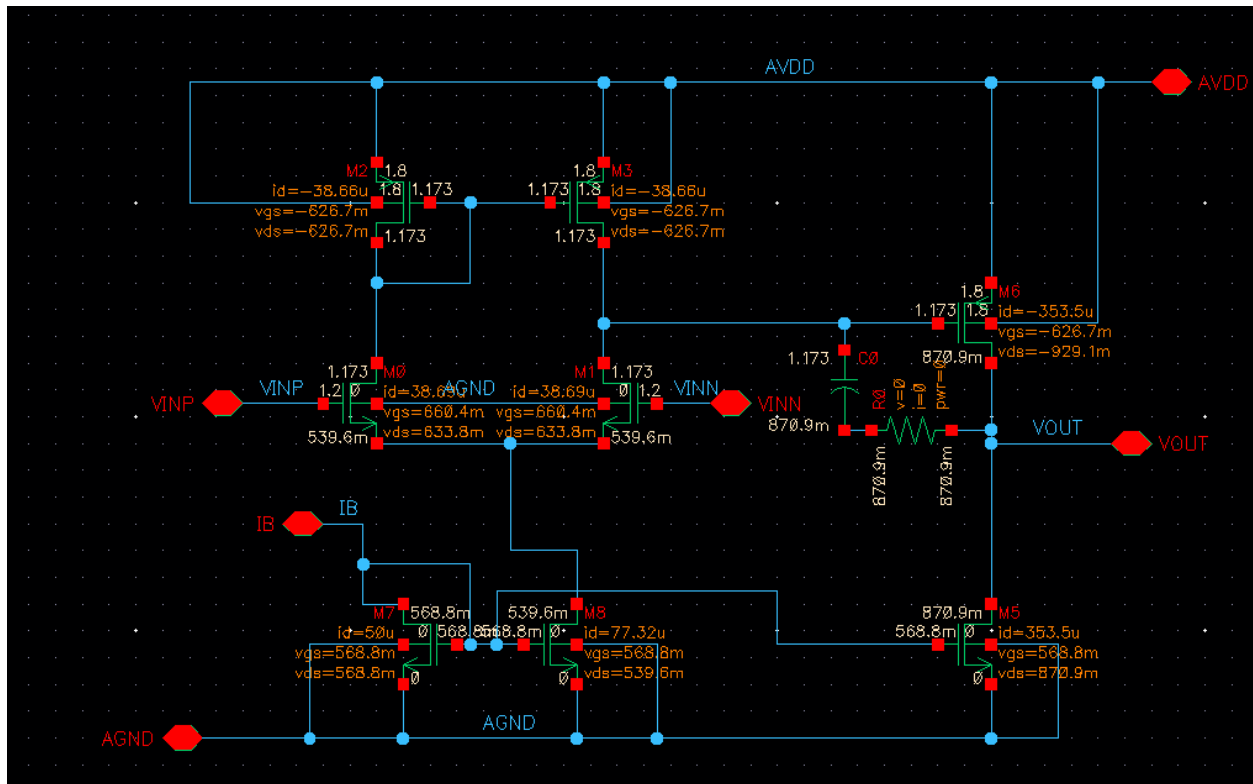

Figure 1.3
- So , the architecture that I implemented is as shown in figure 1.3.